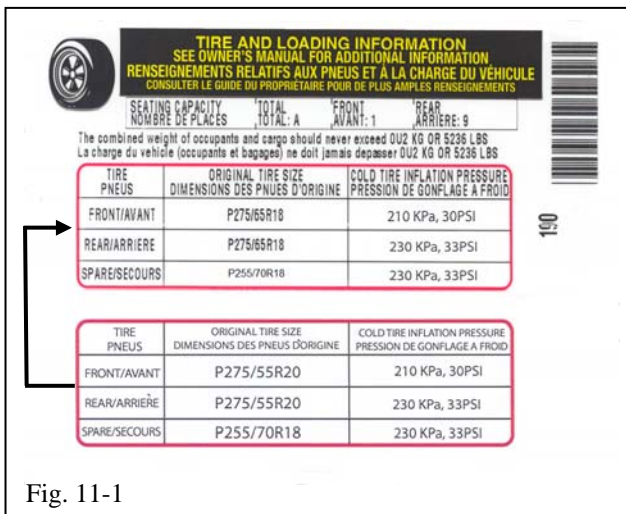

Fig. 11-1
- (b) Align the 20” wheel tire pressure label over the tire size of the OE label (Fig. 11-1).